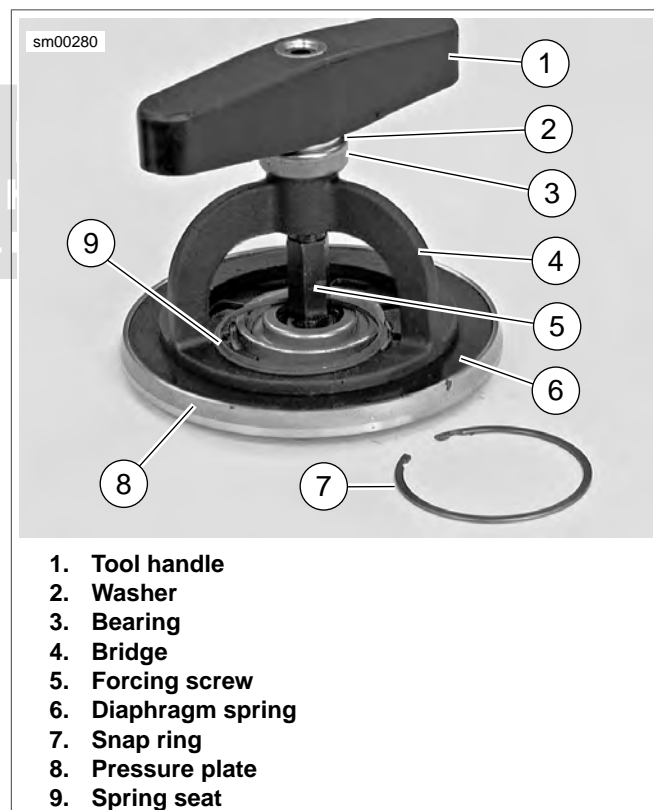

Figure 5-14. Pressure Plate Assembly
See Figure 5-14. Turn compressing tool handle only the amount required to release spring seat and remove snap ring (7). Excessive compression of diaphragm spring could damage clutch pressure plate.
5. See Figure 5-14. Remove pressure plate assembly.
- a. Place a wrench on the clutch spring forcing screw (5) flats to prevent the forcing screw from turning.
- b. Turn compressing tool handle (1) clockwise until tool relieves pressure on retaining ring (7) and spring seat (9). Remove and discard retaining ring.